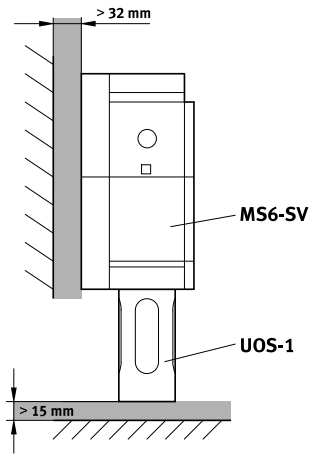

Fig. 4 Installation
- Clogging of the silencer must be avoided → Fig.4.
- Observe minimum distance of 15 mm below the silencer → Fig.4.